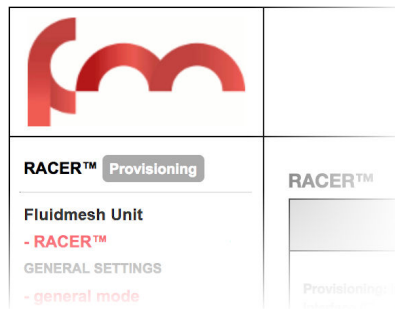

Figure 16. FM Racer status icon (Provisioning Mode)
- Check that the unit is in Provisioning Mode by looking at the colored icon to the right of the **RACER™** tag in the upper left-hand corner of the screen (Figure 16 \(page 64\)).